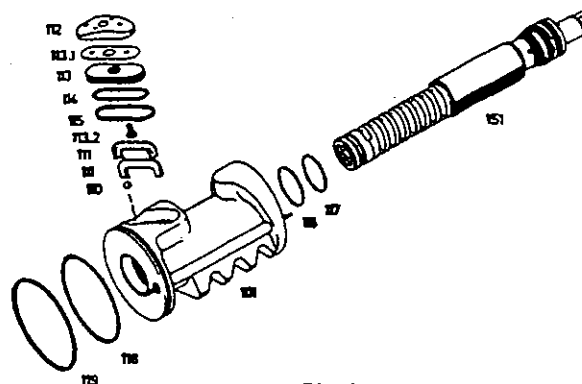

Fig.11
7.2 Remove gasket/plug (112) complete with compensating plate (113.1), gasket (113), sealing elements (114 and 115), pin (113.2) and recirculating half tubes (111) (*Fig.11*).